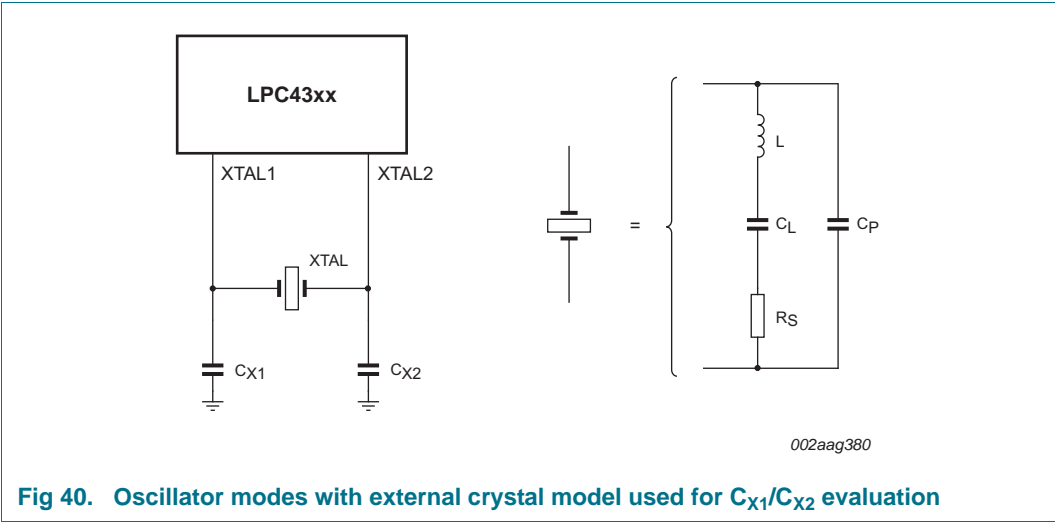

Fig 40. Oscillator modes with external crystal model used for C_{X1}/C_{X2} evaluation
- External components and models used in oscillation mode are shown in Figure 40, and in Table 40 and Table 41. Since the feedback resistance is integrated on chip, only a crystal and the capacitances C_{X1} and C_{X2} need to be connected externally in case of fundamental mode oscillation (the fundamental frequency is represented by L , C_L and R_s). Capacitance C_P in Figure 40 represents the parallel package capacitance and should not be larger than 7 pF. Parameters F_C , C_L , R_s and C_P are supplied by the crystal manufacturer.